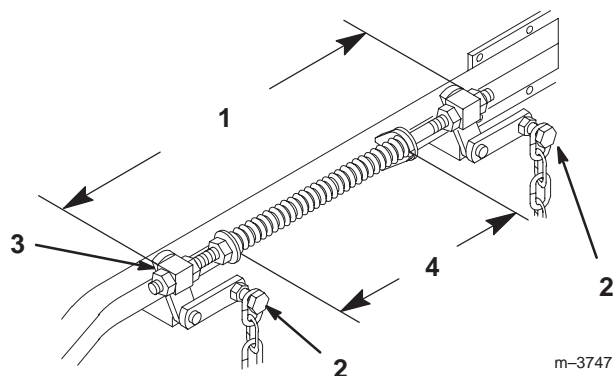

Figure 60
2. Check tire pressure of all four (4) tires. If needed, adjust to 13 psi (90 kPa)
4. Raise the deck to the transport position and take all force off of the two large deck lift springs by loosening nut in front of each spring (Fig. 60).
6. Loosen the four top chain bolts in slots. Check the length of the rod/swivel assemblies. Distance from outside of rear swivel to outside of front swivel should be 19–17/32 in. (496 mm) (Fig. 60). Make sure that all four swivels move freely in holes.
2. Springs are compressed so the distance between the two large washers should be 10-1/4 in. (260 mm) (Fig. 60).
3. Adjust by turning nut in front of each spring (Fig. 60). Clockwise will shorten spring, counter-clockwise will lengthen spring.